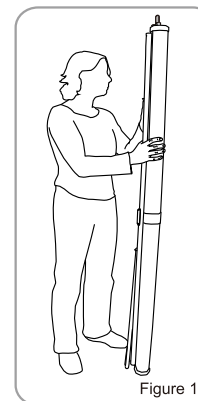

Figure 1
1. Grasp the screen handle with one hand and step the toe release plate to fully stretch the tripod on the ground. (Figure 1 - 3)